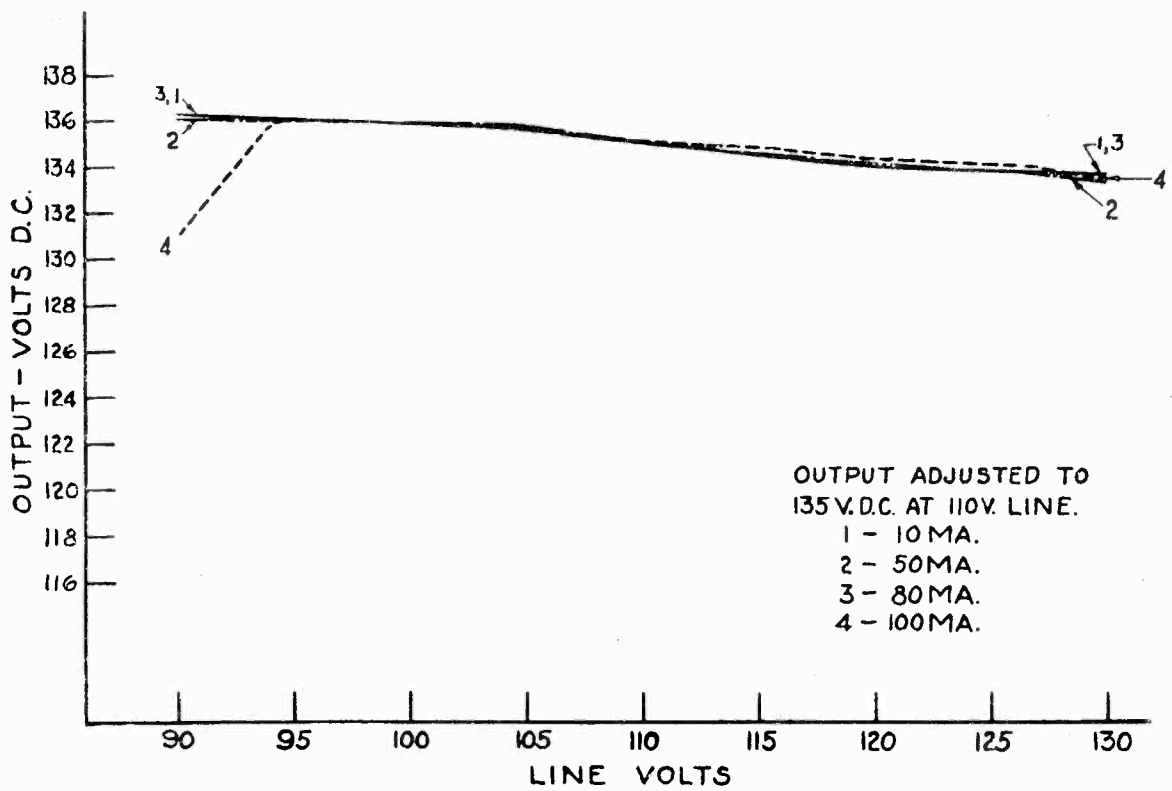

Figure 11—Voltage Regulation vs. Line Volts
are the voltages applied to the deflecting plates. In this case, the frequency of A is three times that of B. The resultant figure (C) shows a 1:3 pattern in which both voltages start in phase. Figure 8 is the same as Figure 7 except that voltage A is started 90 degrees out of phase with respect to voltage B. Figure 9C shows the resultant pattern obtained where B is a saw-tooth wave and A a sine wave. This is of interest because this type of wave form results when a linear timing axis is used. Figures 11, 12, and 13 show patterns of increasing complexity, Figure 13 being an 8:6 pattern.
Figures 14, 15, and 16 illustrate patterns as they generally appear on the fluorescent screen. Figures 11 to 13, and 17 to 23 are shown as pictures whose appearance suggests that the pattern has been developed on a plane. They have been shown in this fashion to facilitate study.
An optional method for determination of the frequency ratio is that of comparing the number of peaks on a given figure with the horizontal lines of intersections on the figure instead of with the number of loops at the end of the figure. A study of some of the patterns will make this clear. In Figure 20, there is a single line of intersections along the axes of the figures. It can easily be seen that this is a two-line figure by comparing it with the single line Figures 17 and 23. Figures 16, 19, and 21 having two horizontal lines of intersections, each spaced approximately one-third from the top and bottom, are three-line patterns. In the same manner, the four-line patterns of Figures 11, 18, and 22 are distinguished by three lines of intersection, the five-line pattern of Figure 12 by four lines of intersection, and the six-line pattern of Figure 13 by five lines of intersection with characteristic positions for these lines in each case. Thus, the frequency ratio is also equal to the number of peaks on circumference divided by the term, one + number of horizontal lines of intersection.